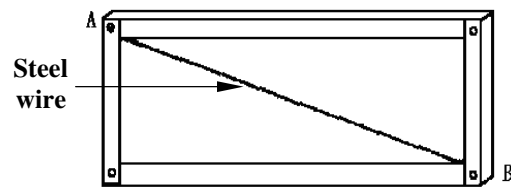

Figure 9(c)
- (i) If 'j' is the number of joints, 'b' is the required number of bars. Using the formula $b = 2j - 3$, calculate the number of bars required in Figure 9(b) to make the frame rigid. (3 marks)